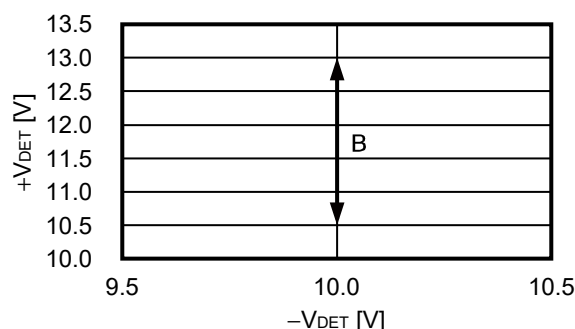

Figure 6 Detection Voltage and Release Voltage Possible Setting Area ($-V_{DET} > 10.0$ V)
2. The detection voltage in the S-19110 Series, which is 10.0 V max., is the release voltage in B area shown in **Figure 6** in SENSE detection product with $-V_{DET} = 10.0$ V. When setting the detection voltage exceeding 10.0 V with an external resistor, the difference of detection voltage and release voltage can be set in the range of 5.0% to 30.0%.